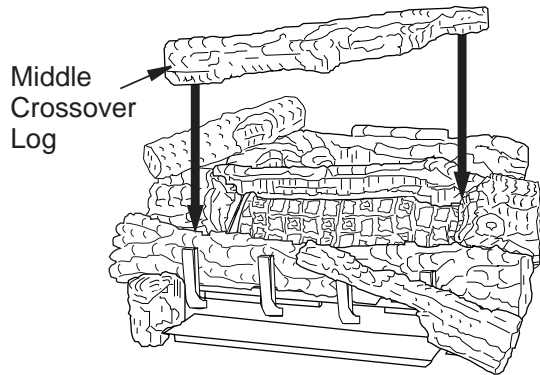

Figure 37 - Installing Middle Crossover Log
10. Rest the middle crossover log onto the right middle log and the left front log (see **Figure 37**). Make sure to match the projection on the bottom of the crossover log with the recess area in the right middle log and the left front log.